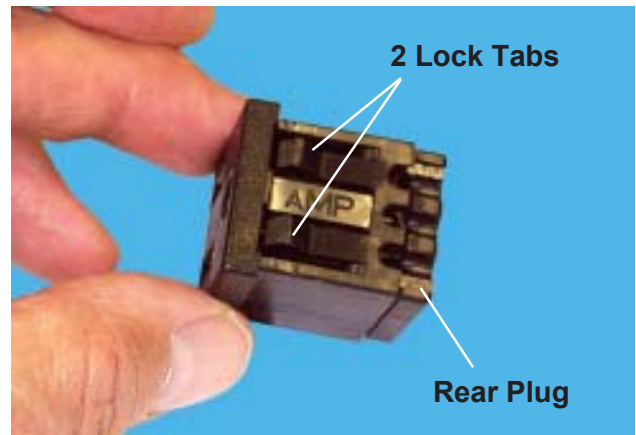

Figure 34. Auxiliary Outlet - Bottom
12. Pull the black, white and green wires out of the rear of the outlet. **Note:** DO NOT attempt to remove the rear plug from the outlet (Figure 34).